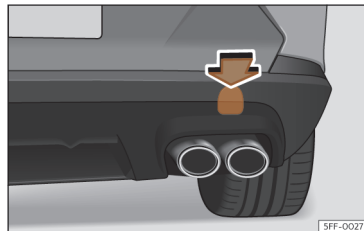

Fig. 46 On the right side of the rear bumper: remove the cover.
The housing of the screw towing eye is on the right side of the rear bumper behind a lid »» **Fig. 46**.
- Press the upper side of the lid»» Fig. 46 to unclip it.